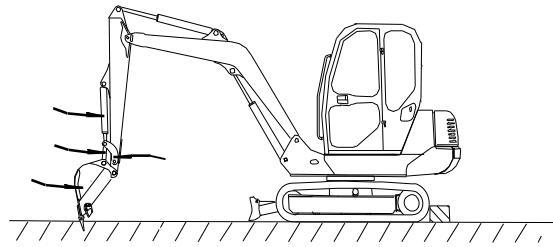

图1
- 1) First, remove the bucket, bucket cylinder, link, rocker arm, or other attachments (as indicated by the arrows in Figure 1).